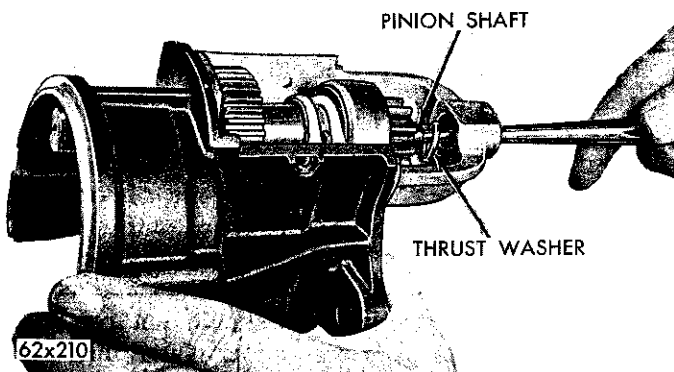
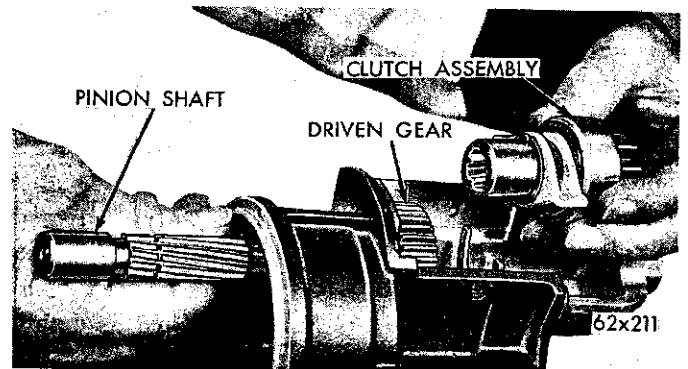
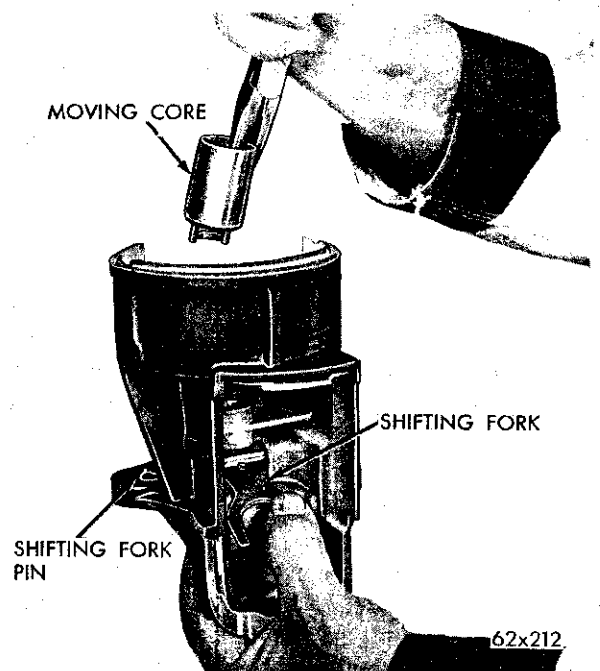

Fig. 13—Removing the Pinion Shaft
Fig. 14—Removing or Installing the Clutch Assembly
Fig. 15—Removing or Installing the Moving Core
(23) Push the pinion shaft towards the rear of the housing (Fig. 13) and remove the snap ring and thrust washers, clutch and pinion assembly, with the two shifter fork nylon actuators (Fig. 14).
(24) Remove the driven gear and friction washer.
(25) Pull the shifting fork forward and remove the solenoid moving core (Fig. 15).
(2) Install the solenoid moving core and engage the shifting fork (Fig. 15).
(3) Enter the pinion shaft into the drive housing, and install the friction washer and driven gear.
(4) Install the clutch and pinion assembly (Fig. 14), thrust washer, retaining ring and the thrust washer.
(5) Complete the installation of the pinion shaft engaging the shifting fork with the clutch actuators.